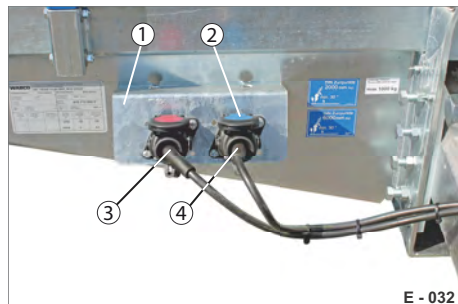

Fig. 13 Plug console 12 V - 24 V
- ▶ Insert the required 12 V or 24 V plug (Fig. 13/3 or 4) into the multi-voltage socket (Fig. 15/3) on the console.